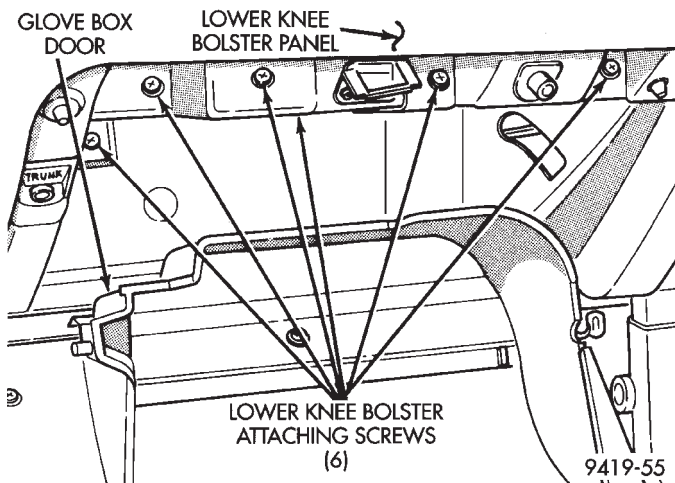

Fig. 17 Lower Knee Bolster Attaching Screws At Glove Box
(18) Remove 6 screws inside glove box (Fig. 17) attaching lower knee bolster panel to cowl panel. Access attaching screws by opening glove box and pushing sides inward allowing door bumper to pass lower knee bolster panel, allowing glove box door to open fully.
(19) Install and securely tighten the 6 screws inside the glove box (Fig. 17), attaching the lower knee bolster panel to the cowl.